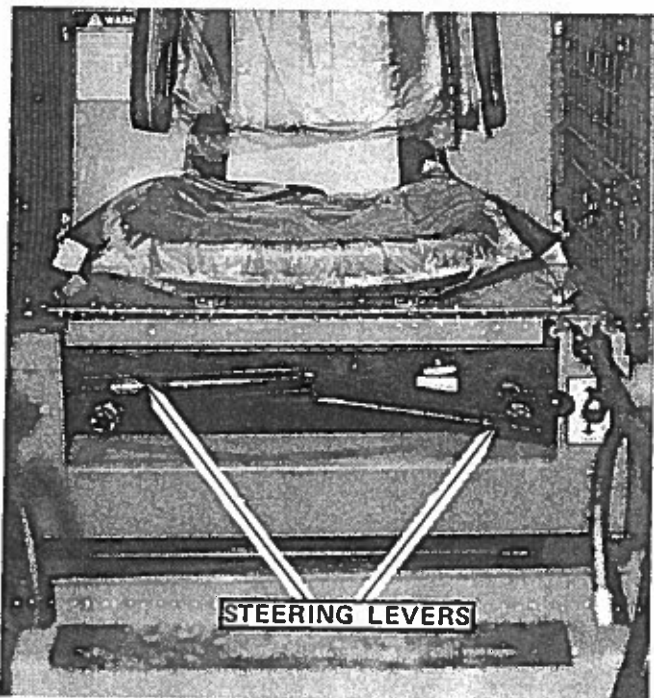

FIGURE 19
1. Rotate steering levers inward and down to the horizontal position, as shown in FIGURE 19.